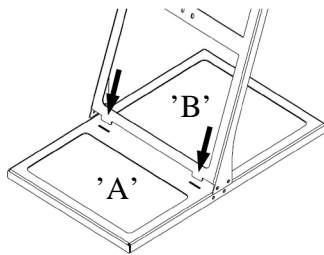

Fig. 4
3. Slide the top half of the stand 'B' into position by engaging the tabs into the slots on the base half as shown in Fig. 4.